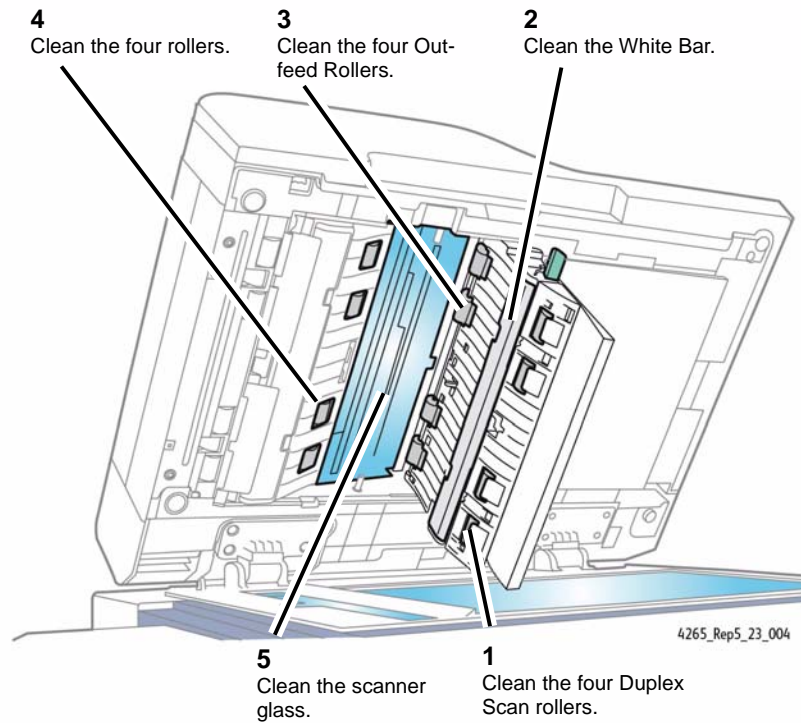

Figure 4 Cleaning the DADF Components
8. Clean the DADF components (Figure 4).